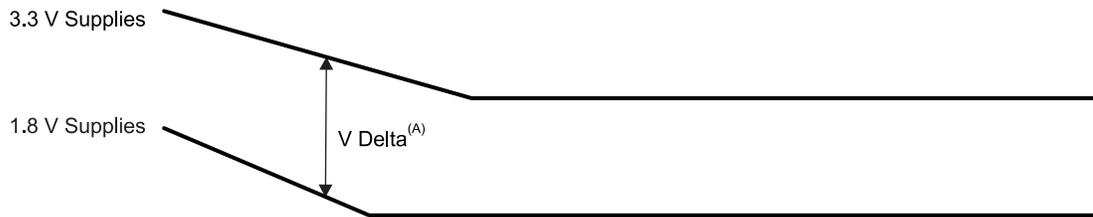

Figure 7-3. 1.8 V Supplies Falling Before 3.3 V Supplies Delta
- (1) The 1.5-/1.8-V DVDD_DDR[x] and CVDD, CVDD_x variable supplies can be powered down prior to or simultaneously with the 1.8-V supplies.
- (2) The 3.3 V supplies **must** never be more than 2 V above the 1.8 V supplies (see Figure 7-3).